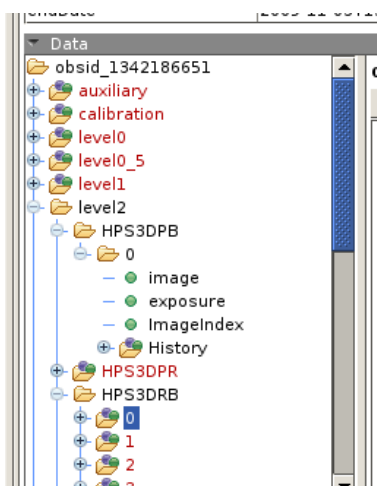

Figure 1.3. A further inspection of your ObservationContext
- # The SpectrumExplorer (SE). This is a spectral visualisation tool for sets of 1d spectra and the *SpectralSimpleCube*, but probably not right now on the *PacsRebinnedCube*. It allows for an inspection and comparison of spectra from individual spaxels. It is a very useful quick-look and quick-compare for the spectra from your cube, and highly recommended as a first look tool. The *DAG* provides a guide to the use of the SpectrumExplorer.
- # The SFTool and other mathematics tasks. The SpectrumFitterTool will allow you to fit and do mathematics on your spectra. To access the SFTool, click-highlight the *SpectrumSimpleCube* (the numbered entry, e.g. +0, not the "HPS3Dxxx" entry, see Fig. 1.3)); go to the Task panel at the top-right of the Full Workbench; and double click on Applicable. All applicable tasks will be listed, this will include various mathematical tasks and the SFTool. The *DAG* explains the use of these tasks, which at present do not work on the *PacsRebinnedCube*.
If you want to look at the spectra in the *PacsRebinnedCube* you will have to use a command line method. (Hopefully the GUIs will at some point work on this product also.) You will first need to extract the cube it out of the ObservationContext, the easiest way being to drag the cube from the Data panel of the Observation viewer to drop it in the Variables panel. You need to drag the "+0" entry of your cube (see Fig. 1.3), not the "HPS3Dxxx" entry. When in the Variables panel you can (right-click) rename it. Here we call it "mycube". Then you can plot out spectra from the (5x5) spaxels with the command